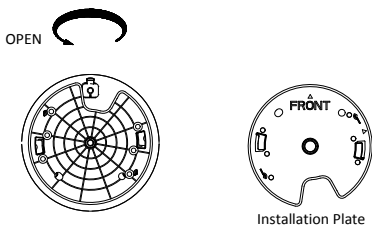

Figure 2-5 Remove the Installation Plate
1. Rotate the installation plate anticlockwise, and remove the installation plate, as shown in Figure 2-5.